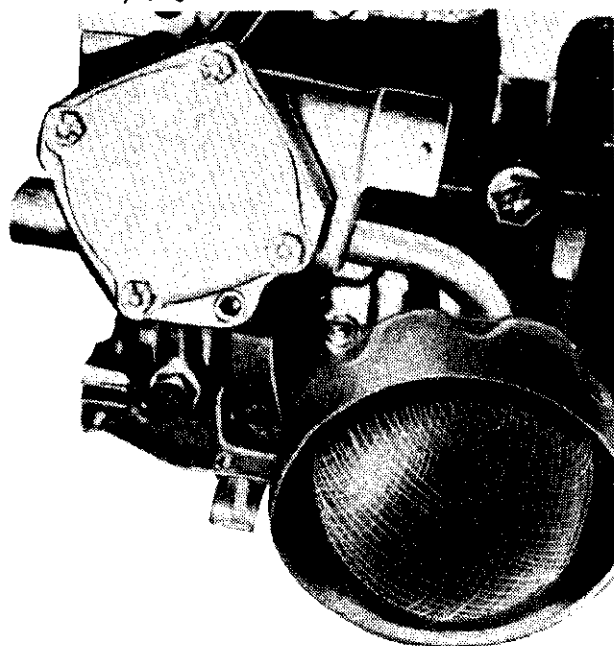

FIG. 28 Oil Pump and Inlet Tube Installed
1. Clean and install the oil pump inlet tube and screen assembly (Fig. 28).